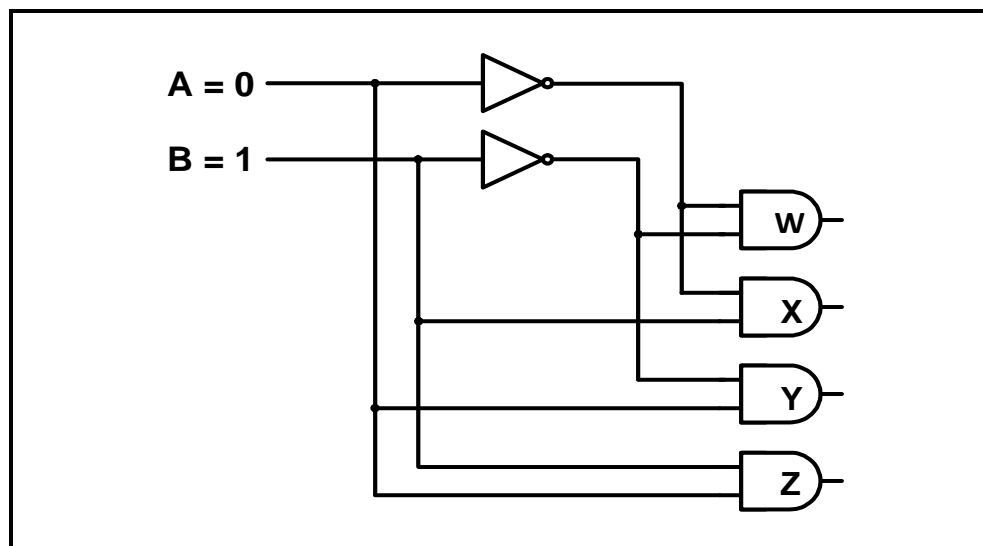

FIGURE 5.3.2
- 5.3.2 FIGURE 5.3.2 below shows a circuit diagram of a two-digit binary input to four-digit decimal output decoder. Determine the output at **W**, **X**, **Y** and **Z** when input A is '0₂' and input B is '1₂'.